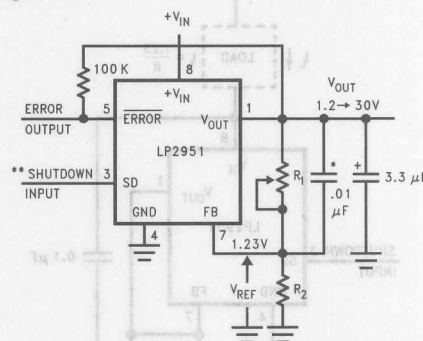

FIGURE 2. Adjustable Regulator
The LP2951 may be pin-strapped for the nominal fixed output voltage using its internal voltage divider by tying the output and sense pins together, and also tying the feedback and V_{TAP} pins together. Alternatively, it may be programmed for any output voltage between its 1.235V reference and its 30V maximum rating. As seen in Figure 2, an external pair of resistors is required.
*When $V_{IN} \leq 1.3V$, the error flag pin becomes a high impedance, and the error flag voltage rises to its pull-up voltage. Using V_{OUT} as the pull-up voltage (see Figure 2), rather than an external 5V source, will keep the error flag voltage under 1.2V (typ.) in this condition. The user may wish to divide down the error flag voltage using equal-value resistors (10 k Ω suggested), to ensure a low-level logic signal during any fault condition, while still allowing a valid high logic level during normal operation.